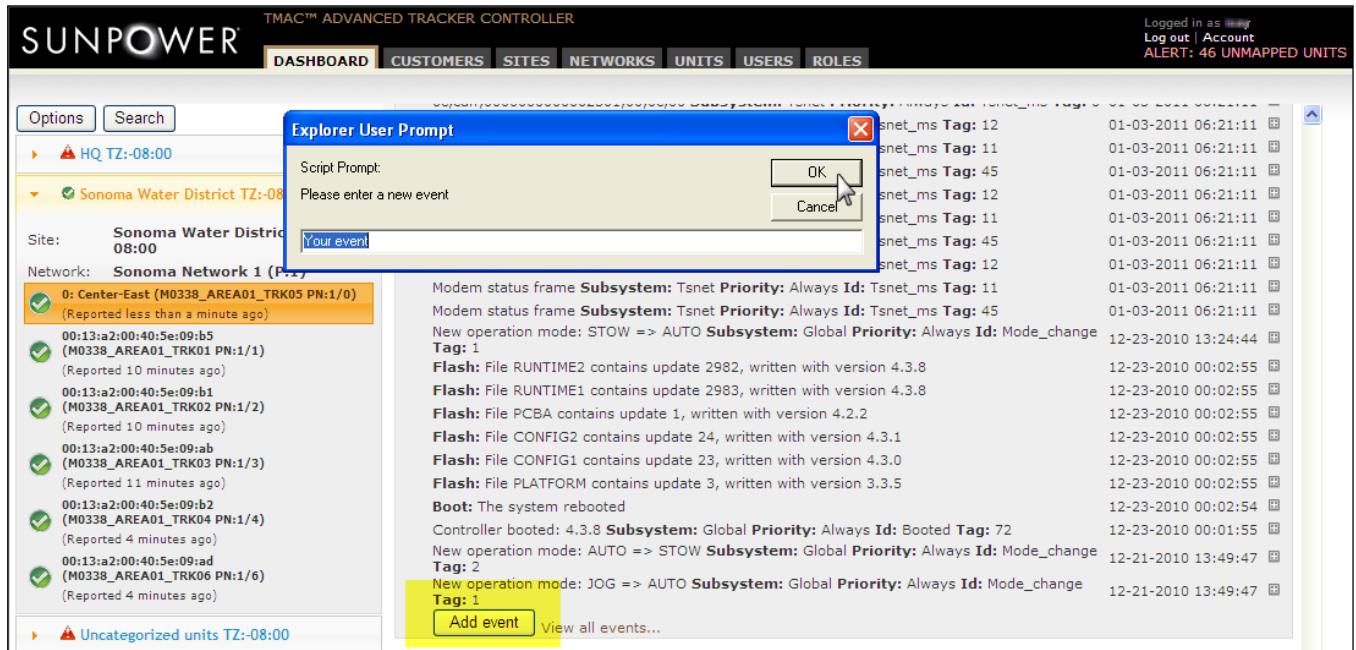

Fig. B41
3. Enter the controller event report in the **Explore User Prompt** screen and then click *OK* (Fig. B41).